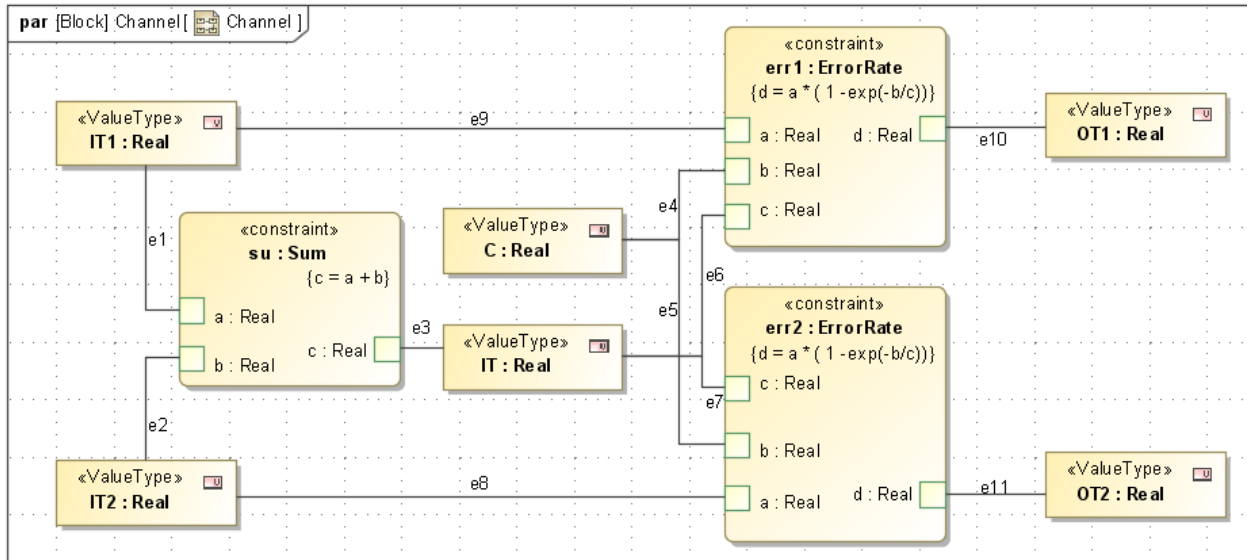
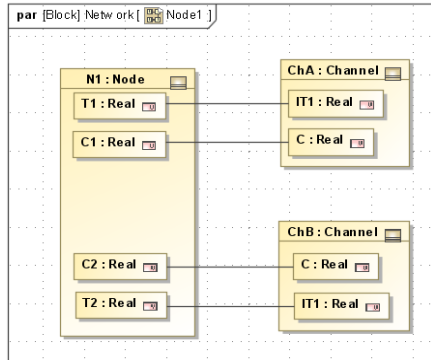

Figure 5.8 Channel parametric diagram (flowports deleted from diagram)
Figure 5.9a Node 1 parametric diagram (flowports deleted from diagram)
- b. Create a parametrics diagram within the **Channel** block, Name = **Channel**. This diagram, shown in Figure 5.8, contains three constraint properties (including two usages of the ErrorRate constraint), with the constraints shown, the six internal value properties, and the nested connectors tying them together. In this example, the objective of the equations to reduce the signal throughput at the output of each line relative to the
- c. Create parametric diagrams connecting the channels and nodes through equalities as in Figure 5.9a-d. Use the internal block diagram in Figure 5.8 to keep track of which blocks and ports connect. In this example, we have chosen to divide the entire set of high level parametric relationships into four separate diagrams in order to keep each individual diagram simpler with fewer elements. This illustrates the combined use of internal block diagrams for a high-level qualitative perspective and narrower parametric diagrams to make the actual quantitative connections.